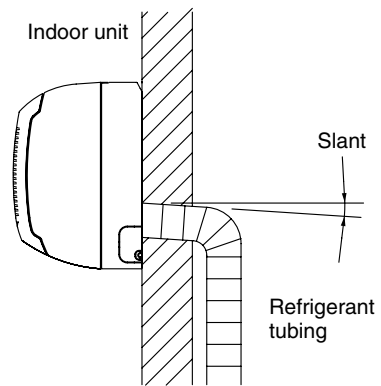

Fig. 3-74
a) The drain hose should be slanted downward to the outside. (Fig. 3-74)